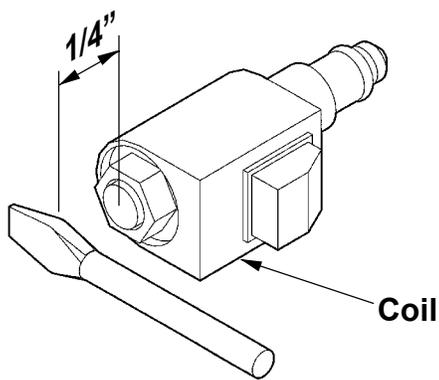

FIGURE 2
3. Check Solenoid Valve for power by holding a screwdriver approximately 1/4" from the top nut of the Solenoid. Energize the unit. (See Fig. 2). A good solenoid will draw the screwdriver to the nut by a magnetic force. The Coil can be replaced by removing the Nut and Wires.